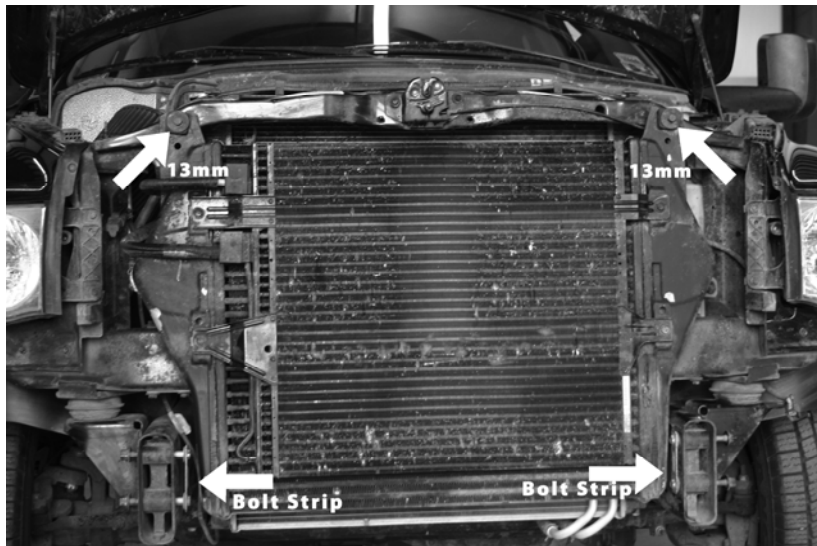

Figure 1
- ❑ F) Re-install and tighten two bolts holding top of intercooler to radiator support (Figure 1).